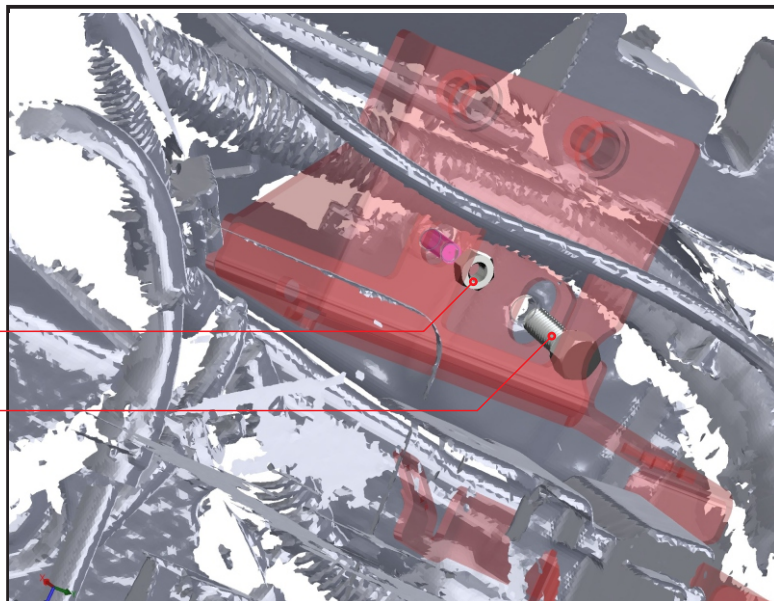

FIG. 4b FB9810FC BRACKET INSTALLATION
9. Screw in the remaining OEM M8 bolt saved from the previous steps in to the firewall mounting point. Then install the supplied MS4040 M6 flange nut on to the firewall stud as shown in Fig. 4b.